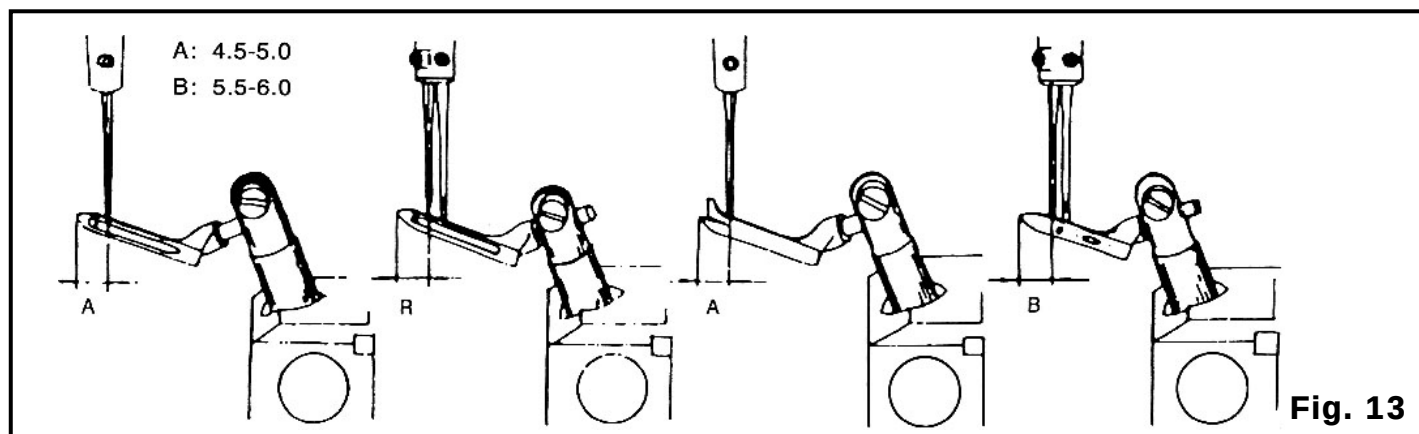

Fig. 13
2. Looper superior e agulha Fig.13